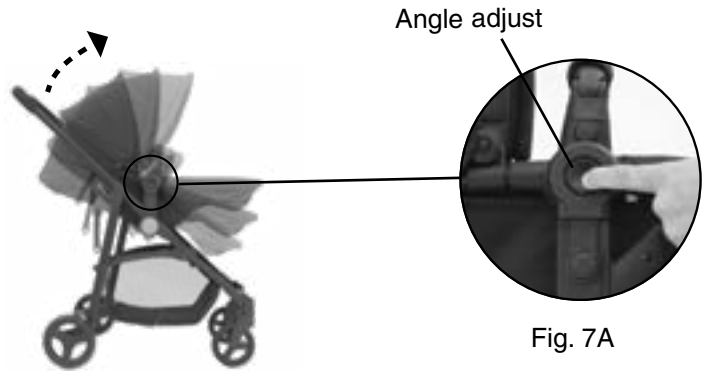

Fig. 7A
- If in **bassinet mode** make sure to set to full incline before continuing (Fig. 7A).